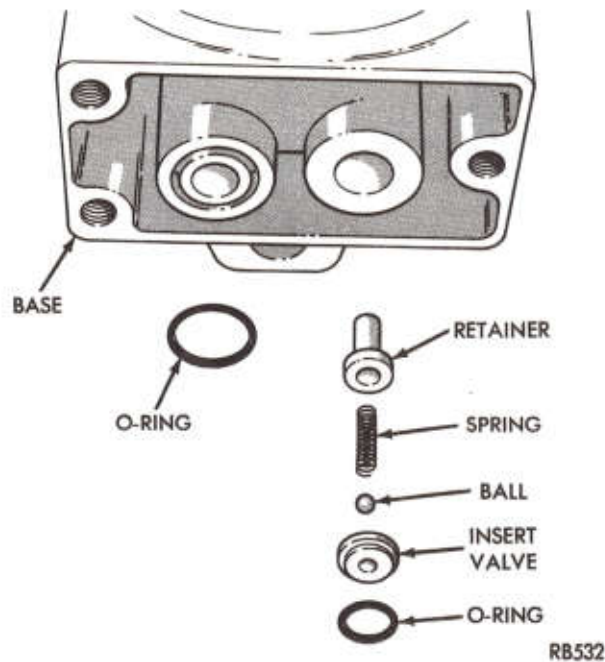

Fig. 10—Insert Valve (Exploded View)
- (15) Remove "A" solenoid coil from base and test for electrical continuity. Normal coil resistance is 7.6 ohms.
- (16) Remove "A" solenoid cartridge (two way valve) with 1-1/8" deepwell socket and inspect for external damage.
- (17) Remove filter assemblies and clean screens with solvent and compressed air. Discard O-rings and nylon retaining rings.
- (18) Remove pump housing and remove insert valve, ball spring, and retainer from base (Fig. 10.). Inspect for damage or contamination. Discard O-rings.
- (19) Remove socket-head screws and remove valve block from base. Discard O-rings.
- (20) Remove "B" solenoid (3-way valve) with special tool J-25399. Remove ball and spring from valve block. Clean solenoid and inspect for external damage.
- (21) Disassemble 3-way valve. Discard O-ring.
- (22) Remove and clean "C" solenoid (4-way valve) with special tool J-25399. Inspect solenoid for external damage.